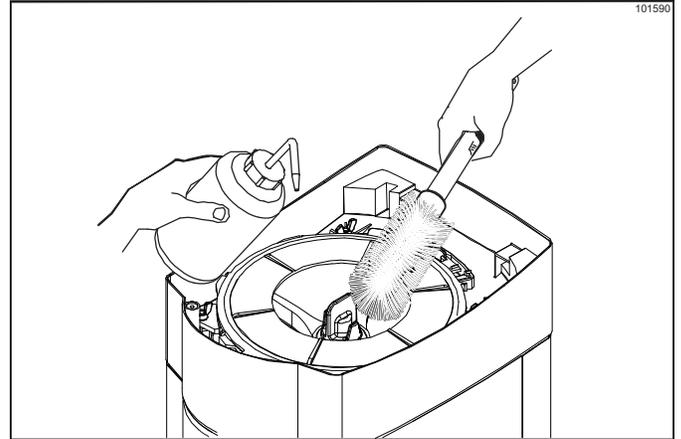

Figure 6-13
18. Using the squeeze bottle filled with cleaning sanitizing solution, flush the ice shaver assembly while brushing with the large white ice hopper brush. (See Figure 6-13.)